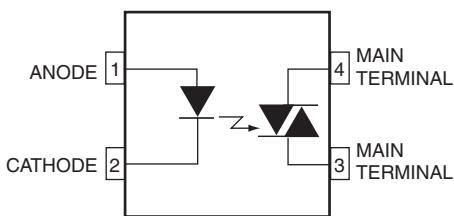

Figure 1. Functional Schematic
3. This is static dv/dt. See Figure 1 for test circuit. Commutating dv/dt is function of the load-driving thyristor(s) only.